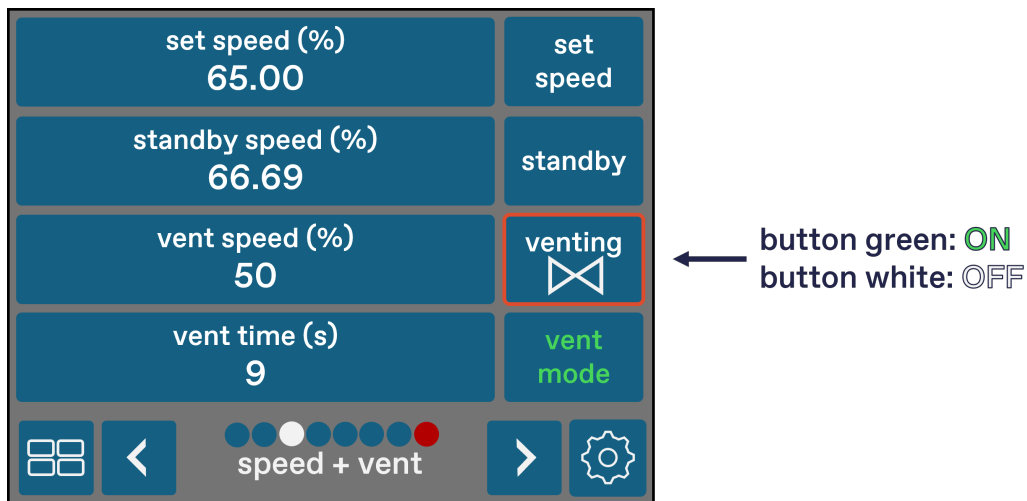

Figure 37: Check and disable "venting" of the pump on page 3 of the pump controller.
1. Go to page "speed + vent" on the pump control and verify that the button "venting" is gray. If it is green, press it (see Figure 37).